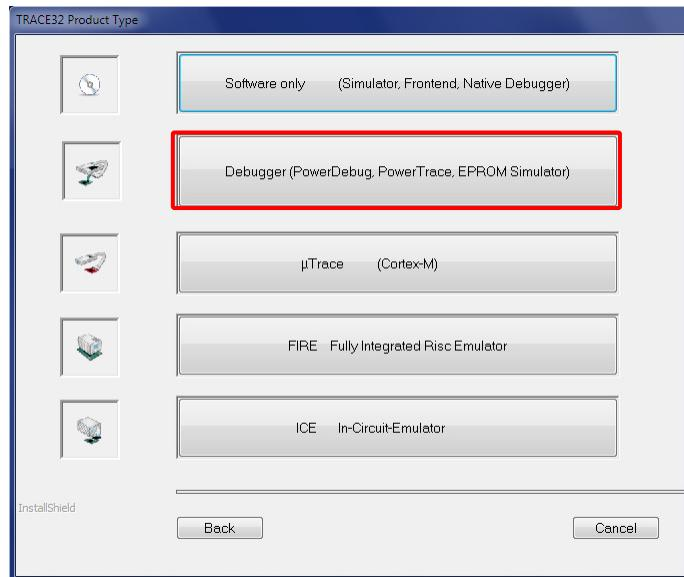

Figure 5.25: **TRACE32 Product Type** page
5. On the **TRACE32 Product Type** page, select **Debugger** (see Figure 5.25 on page 35).